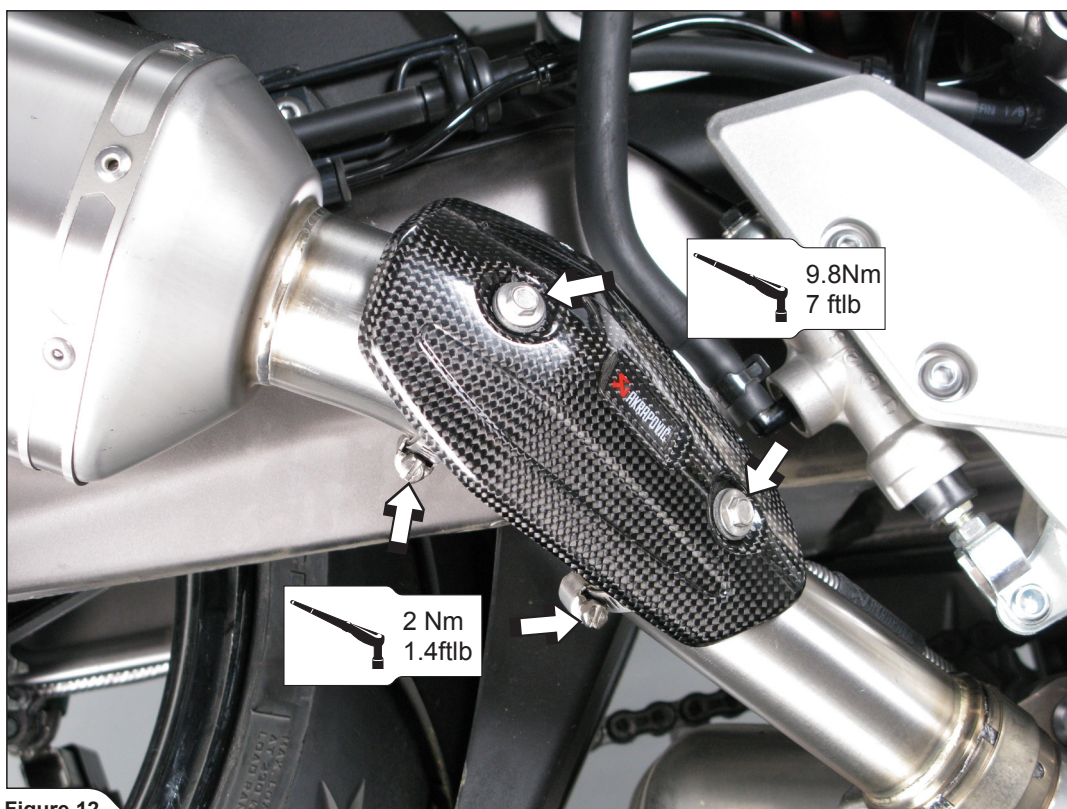

Figure 12
8. **For optional carbon fiber heat shield only:** position the carbon fiber heat shield onto the muffler pipe and hand tighten the tape clamps. Align the heat shield in respect to the muffler pipe and tighten the heat shield and tape clamps to a specified torques (Figure 12).